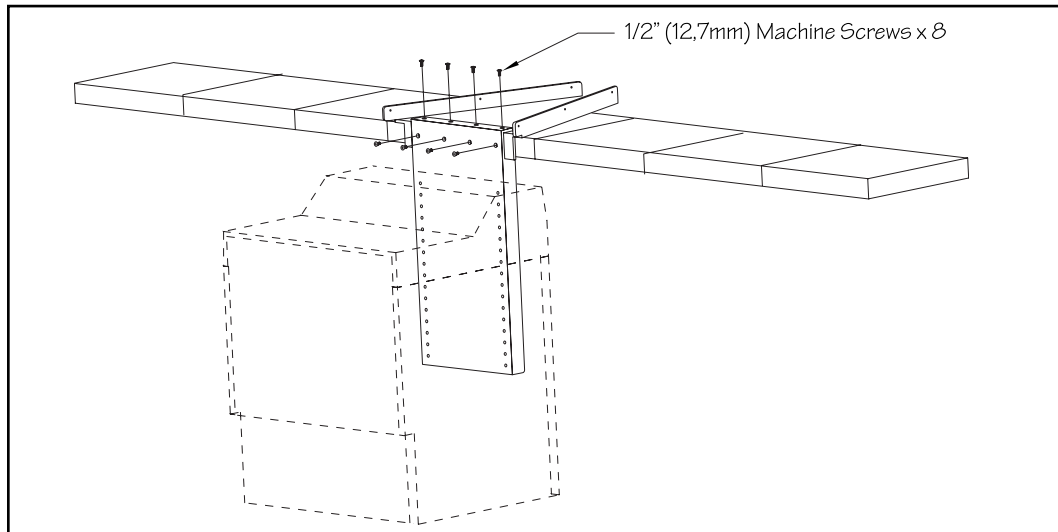

Fig. 9.3
- 9.3 This next step is best done with two people. Carefully lower the Fastlane Pro into the pool. Align the holes in the bracket with the holes in the hose cover tray. Use the provided 1/2" (12,7mm) screws to attach the top screws first and then the vertical screws next (total of 8 screws) (Fig 9.3).